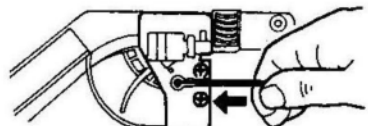

FIG 40
2. To replace throttle cable, reverse above procedure. Outer cable must be pushed fully in before screwing down cover screws (Fig 40)
1. Remove throttle cable (Fig 40, page 20), unclip switch wire from motor.